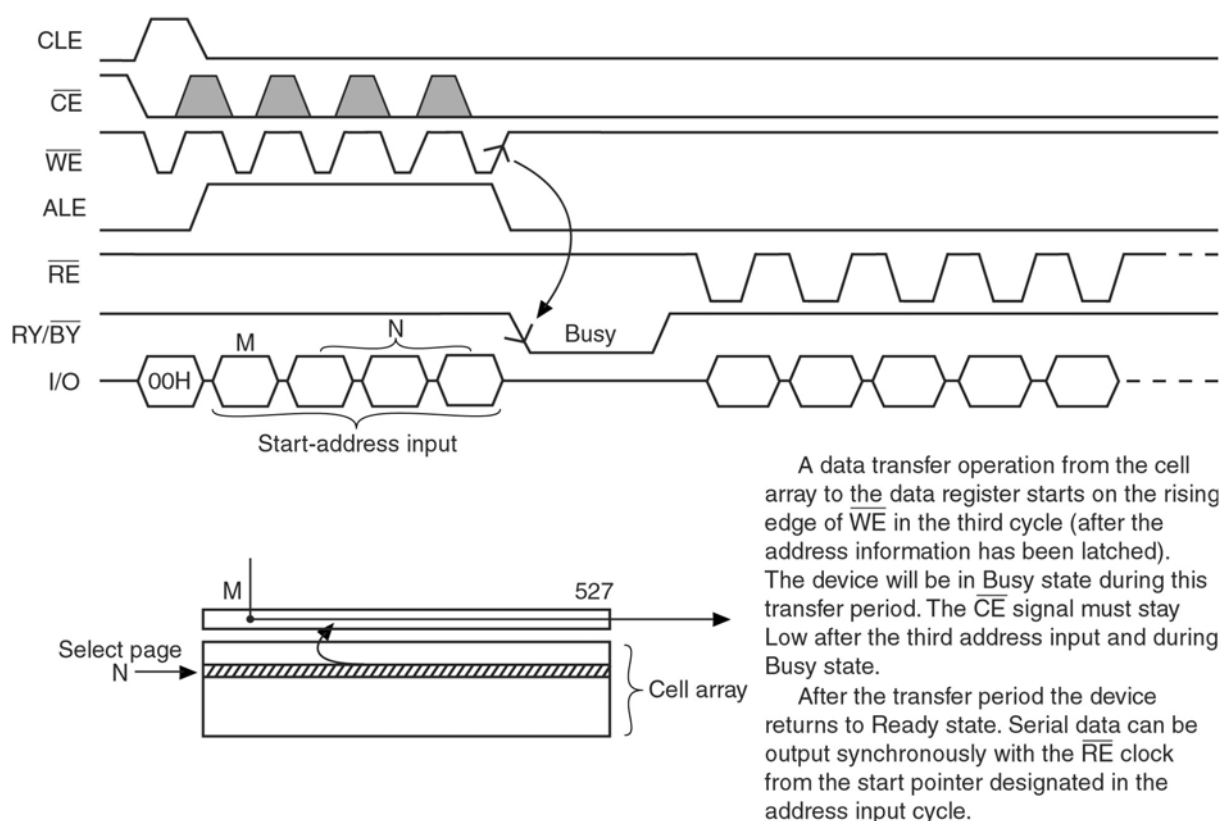

Figure 4-1 Read Mode (1) Operation
4.1 Read Mode (1)
Read mode (1) is set when an 00H command is issued to the Command register. Refer to Figure 4-1 below for timing details and the block diagram.